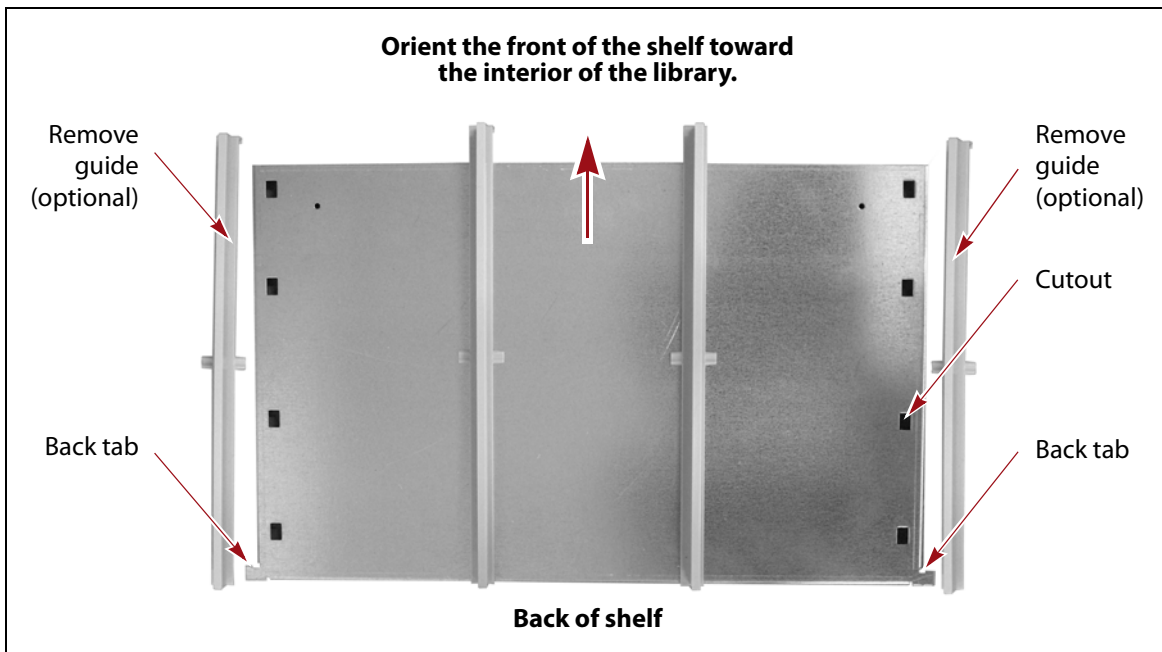

Figure 25 Remove/replace the outer guides from the shelf.
- a. (Optional) Remove the outer guide from each side of the shelf (see Figure 25).